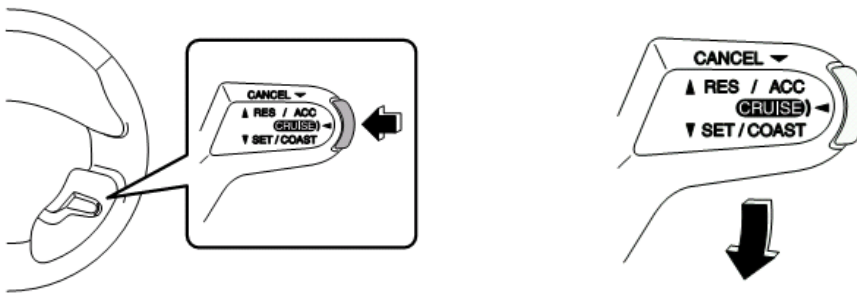

Figure 7 - Pressing the "SET/COAST" and "CRUISE" buttons
- b. Press and HOLD both the **CRUISE** and **SET/COAST** buttons. Please note that the **CRUISE** button is activated by pressing the end of the Cruise Control Steering Column Stalk and the **SET/COAST** button is activated by pulling the entire stalk downward as depicted in *Figure 7*. Both buttons must be depressed and held prior to moving on to the next step.